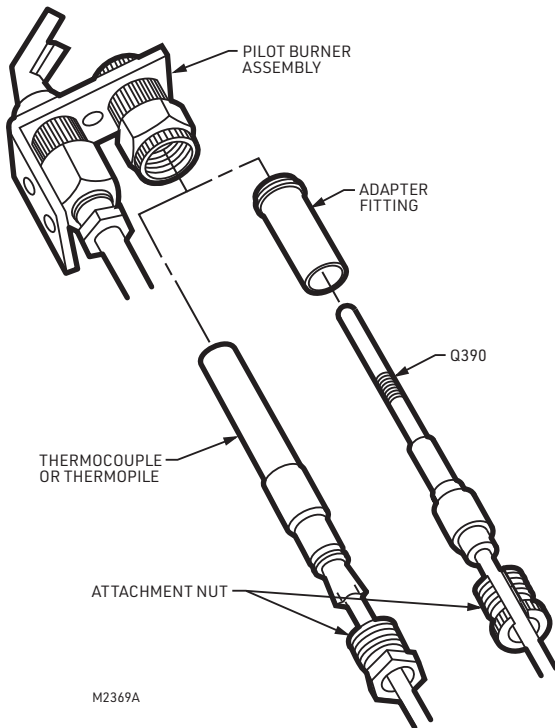

Fig. 3. Installing thermocouple/thermopile with attachment nut.
3. Insert thermocouple/thermopile tip into hole or barrel provided beneath the pilot burner (see Fig. 3).